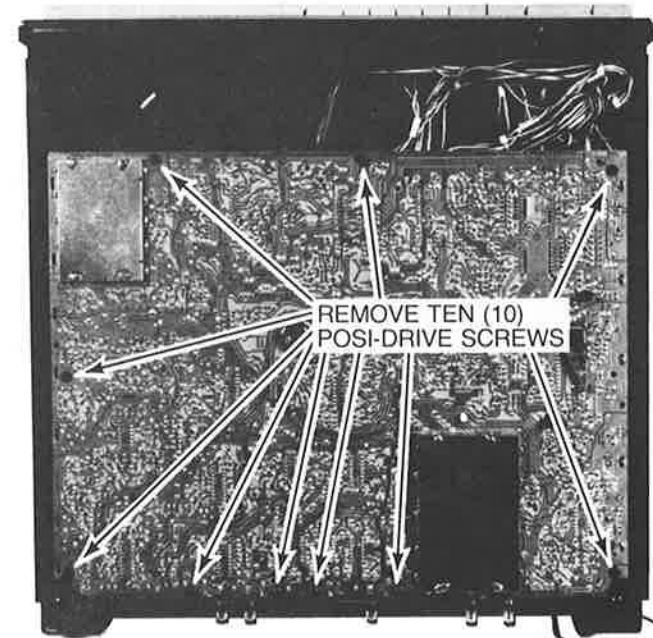

Fig. 11—Master Circuit Board
- Remove ten (10) posi-drive (+ head) screws Fig. 11.